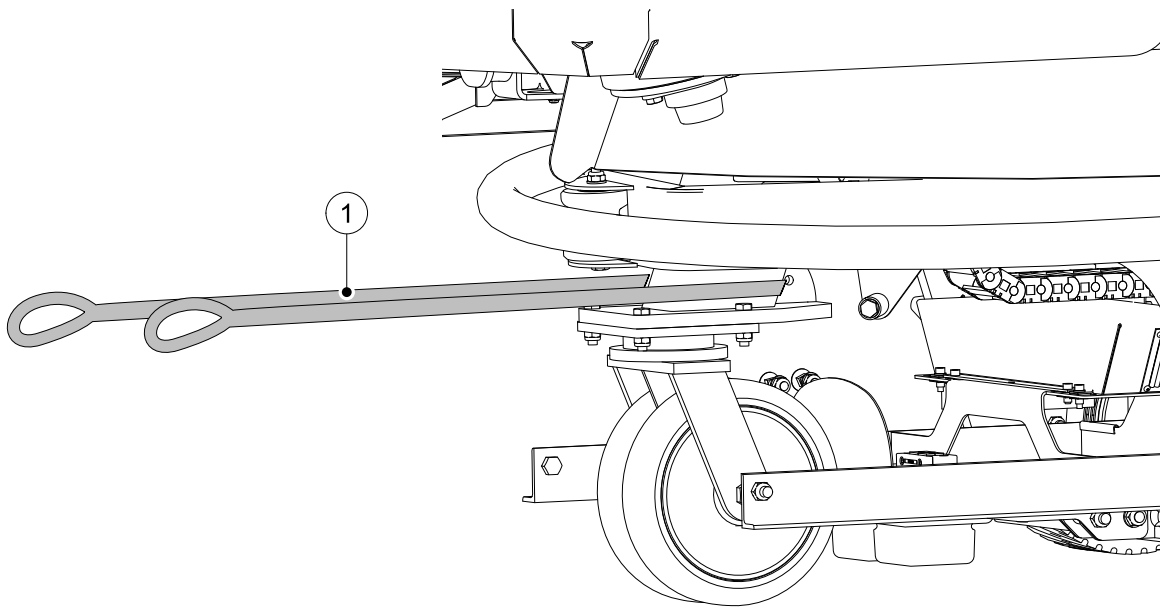

Figure 54. Tow a broken Mixing and Feeding Robot
4. Make sure the main switch (3) on the battery is switched to the “On” position.
Attach a tow rope (1) (see figure 54 on page 7-21) on the frame of the Mixing and Feeding Robot above the swivel caster, make sure the rope can not damage any sensors.